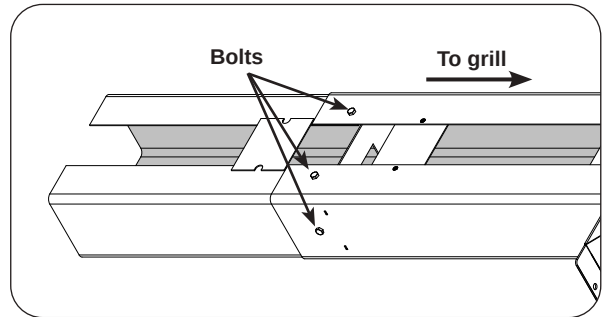

Fig. 30-1 Fasten extension to post
2. From outside the joined post and extension, insert one of the $\frac{1}{4}$ " - 20 X $\frac{1}{2}$ " bolts (supplied) into each of the six (6) bolt holes and tighten each bolt using a $\frac{7}{16}$ " socket driver or wrench (see Fig. 30-1).